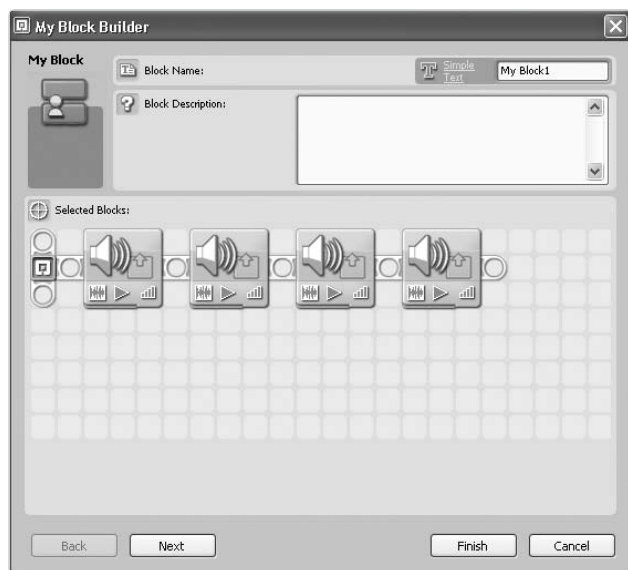

Figure 13-4: The My Block Builder window
3. The My Block Builder window will appear, as shown in Figure 13-4.